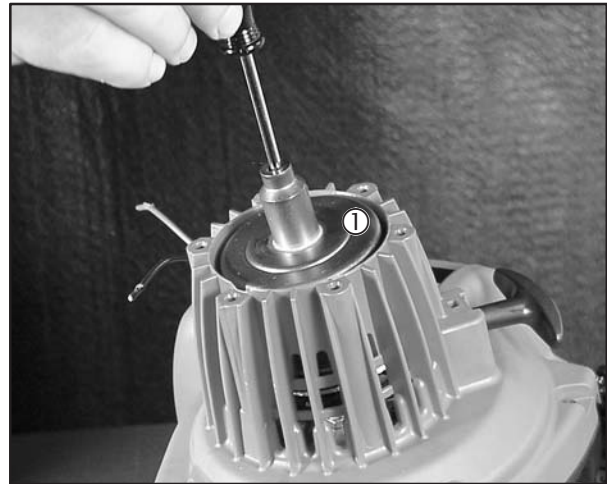

Fig. 8
2. Remove clutch drum (1) using T 15 bit from Briggs & Stratton Tool #19442 Torquex Star Bit Set, Fig. 8.